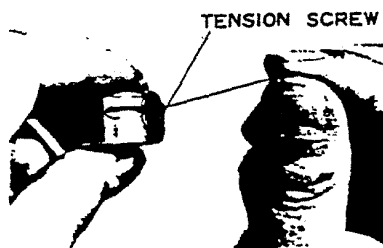
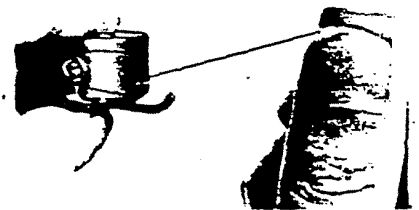

Fig. 6
Fig. 7
- Step 3 : Insert bobbin into the bobbin case. Pull thread into slot in edge of case (Fig. 7) and draw it under the tension screw (Fig. 6).